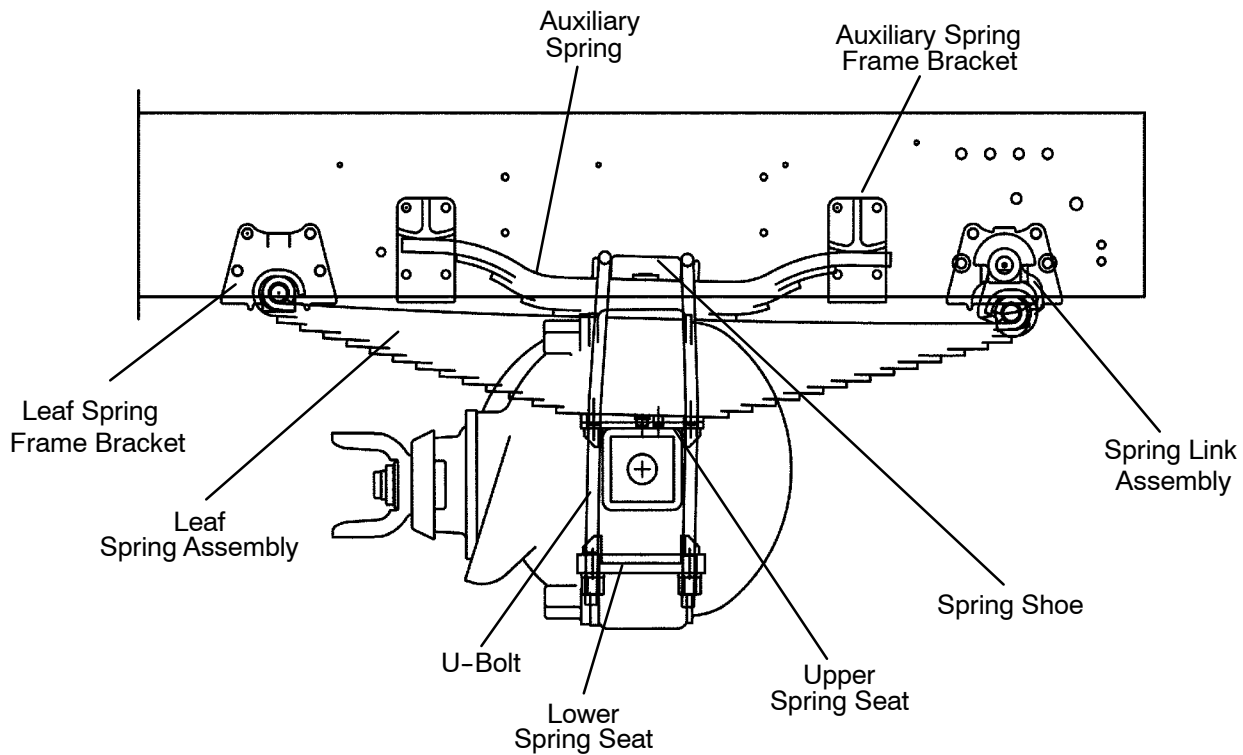

Figure 1. Rear Axle Suspension Assembly
Refer to Figure 1 for the following procedure:
- (10) Tap lock pins (Figure 1, item 1 and 10) with hammer to lock pins with spring eye pin.
- (16) Install axle assembly (26) on spring assembly (22) with spring shoe (6), two U-bolts (7), lower spring seat (27) four lockwashers (8) and four nuts (9). Torque to 460 ft. lbs. (624 N.m).